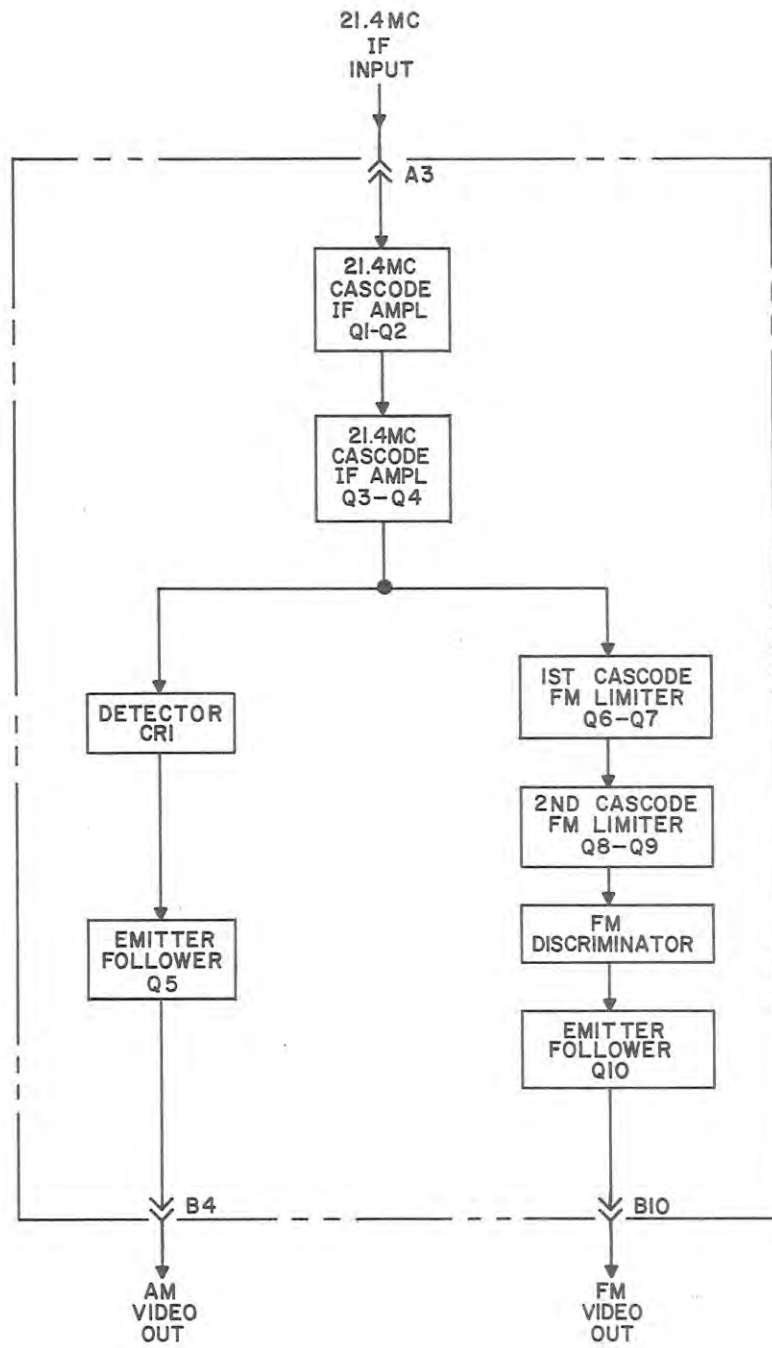

Figure 4-3. IF Amplifier, IF-212-500, Functional Block Diagram.
- (3) Isolation Amplifier, ISA-202: Isolation amplifier module A3 couples the local oscillator output of tuning head module A1 to an output connector on the front panel of the RF tuner. This output is used for monitoring purposes. When not in use, the output is terminated in a removable 50-ohm captive cap.
- (4) Miscellaneous Circuits: Dial lamp DS1 is on when power is applied to the RF tuner. Zener diode CR1 regulates the voltage applied to FINE TUNING control R1. The regulated voltage prevents local oscillator frequency variations due to voltage level changes. All power is applied to the RF tuner from the receiver main chassis supply.
C. IF Amplifier, IF-212-500, Figure 4-3